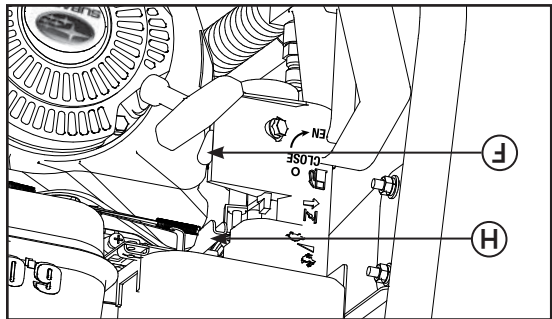

Figure 12
4. Move the throttle lever (H on figure 12) completely to the right.
7. Turn up fuel valve to close (F on figure 12).